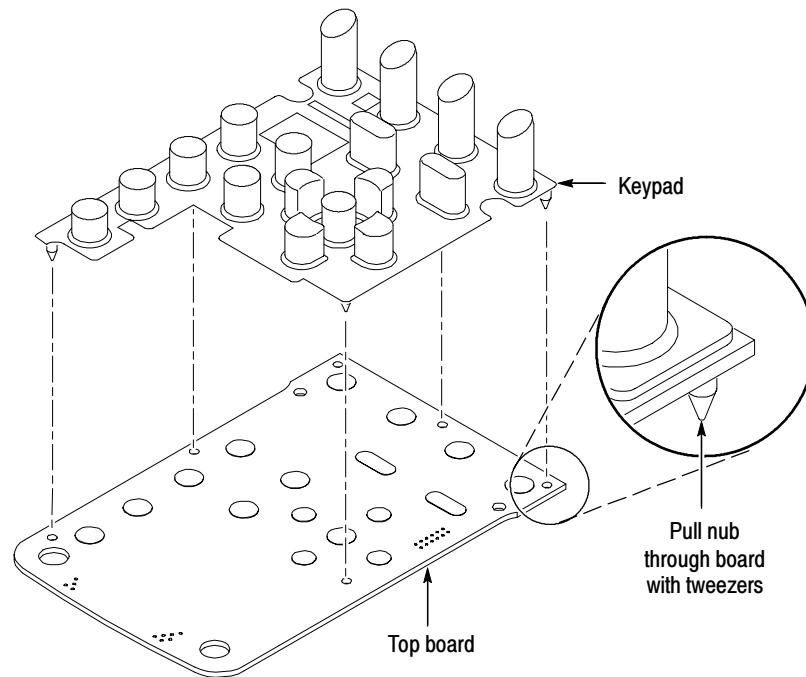

Figure 6-4: Installing the keypad
2. Use tweezers or needle-nose pliers from the backside of the Top board to pull the nubs of the keypad through the Top board. See Figure 6-4.